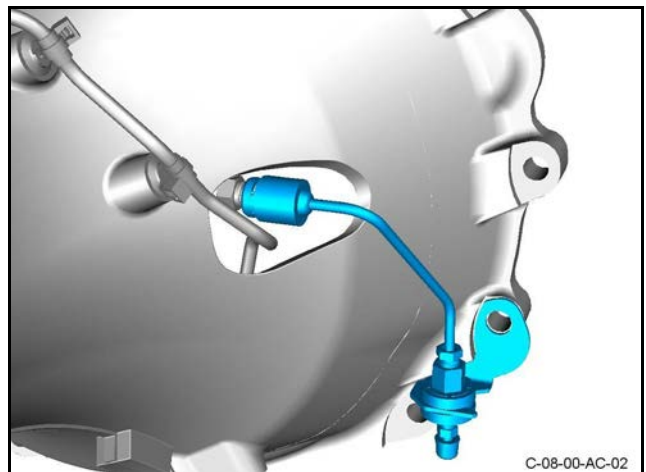

Figure 8
12. Put the bleed pipe into position (refer to Figure 8).